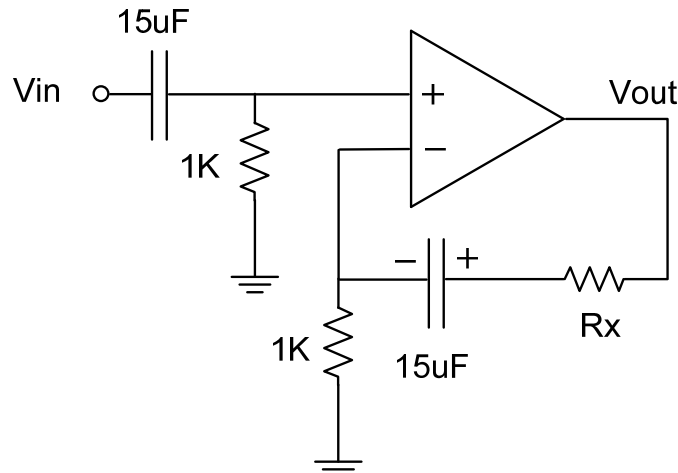

Figure 5.
- (8) Connect the circuit as shown in Figure 5. Measure the magnitude of the open-loop gain vs. frequency as in Step 3 with R_x an open circuit. With R_x open, there is no